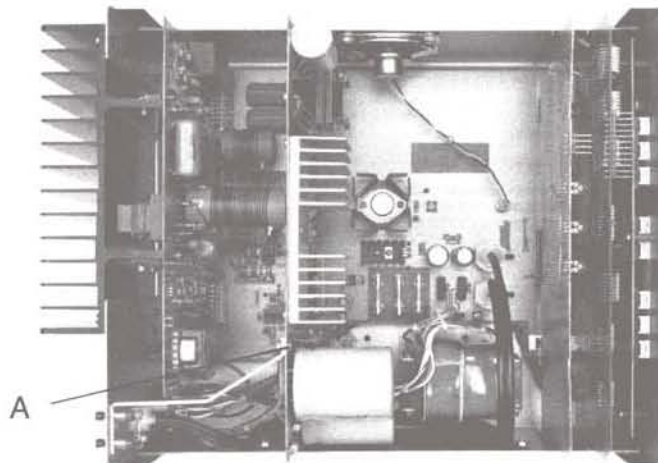

Figure 10. Power Supply Board
Significant changes in the supply voltage setting, such as from 110/120V to 220/240V, require a change in two internal fuses. Fuses F400 and F402 are located on the power supply board. Figure 10 shows the location of the power supply board in the CMC-III chassis.
3. Remove the Phillips head screw (Item A in Figure 10) that holds the power supply board to the metal bracket.